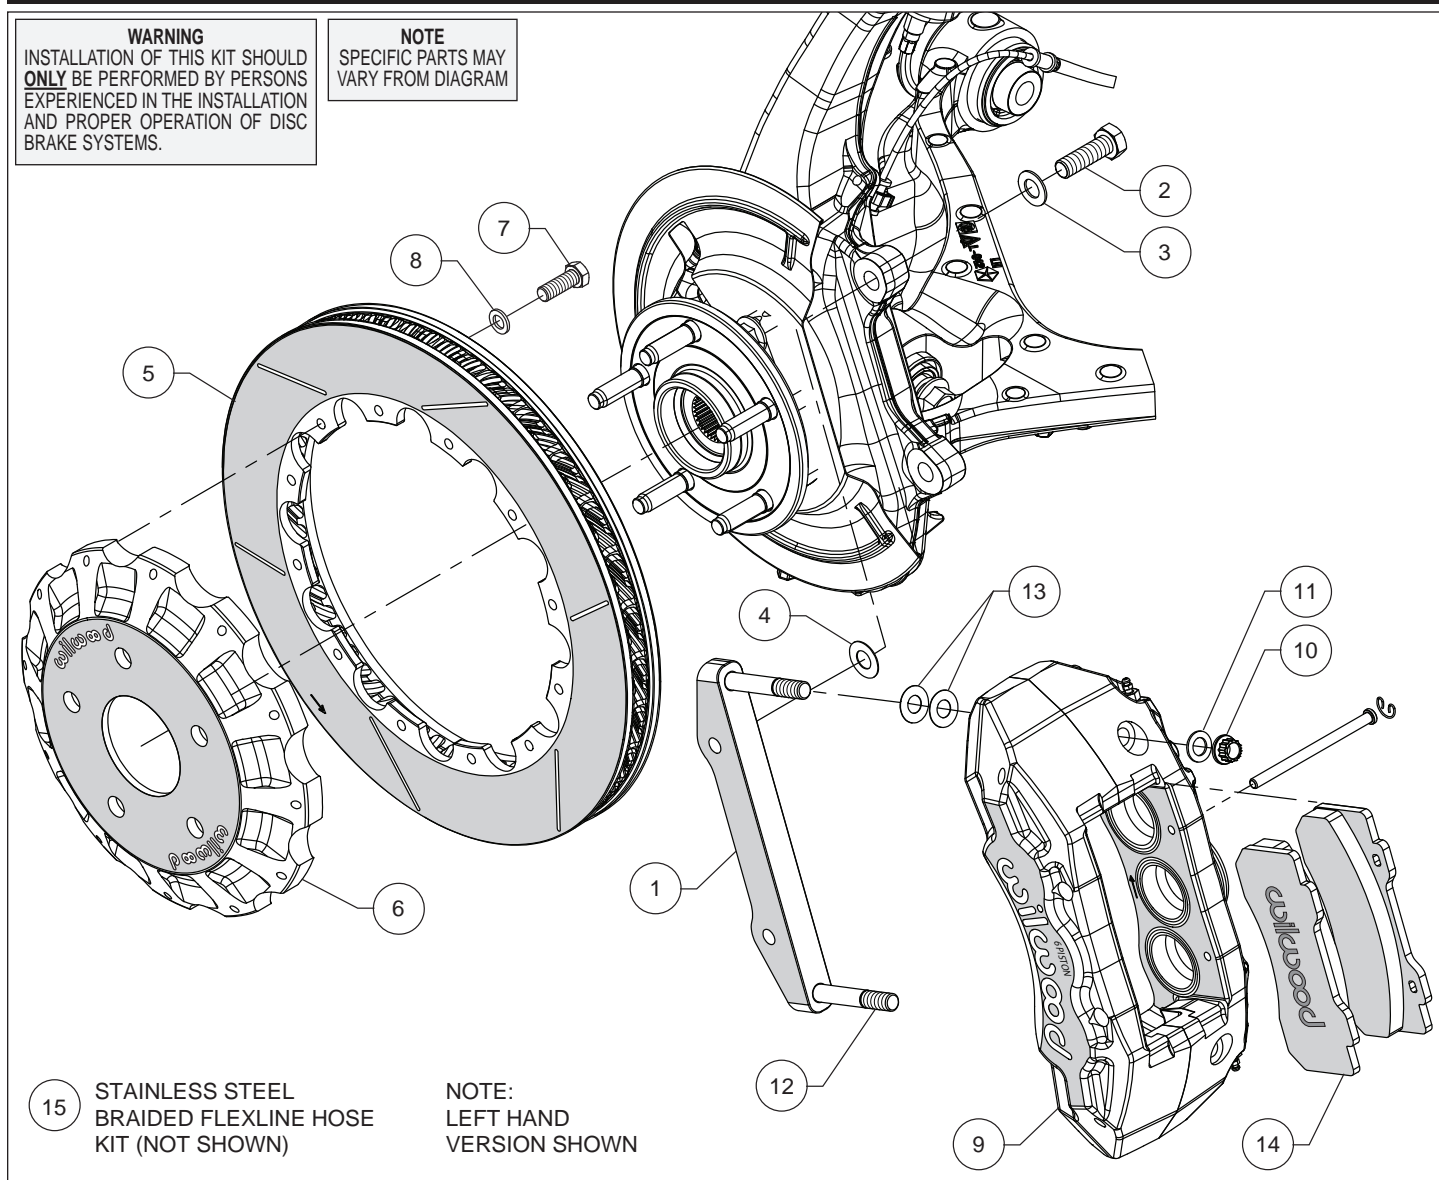
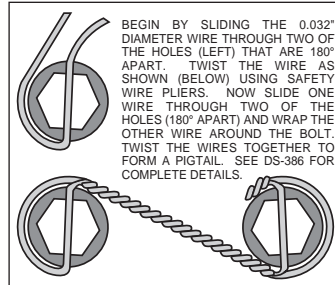

Figure 1. Typical Installation Configuration
Figure 3. Safety Wire Diagram
Assembly Instructions (numbers in parenthesis refer to the parts list and Figure 1 on the preceding pages):
- The caliper mount bracket (1) should initially be installed with clean, dry threads on the mounting bolts. Orient the bracket as shown in Figure 1 and Photo 1, and install using bolts (2) and washers (3). Initially place one .029 thick shim (4) on each bolt between the bracket and upright, Figure 1. Temporarily tighten the mounting bolts. **NOTE:** *The bracket must fit squarely against the mount bosses on the upright.* Inspect for interference from casting irregularities, machining ridges, burrs, etc. Later, after the caliper alignment has been checked, the mount bolts will be secured using red *Loctite*® 271.
- Orient the rotor (5) and the hat (6) as shown in Figure 1 and Photo 2. Attach rotor to hat using bolts (7) and washers (8). Using an alternating sequence, torque to 25 ft-lbs. For an added measure of security, the bolts may be safety wired using standard 0.032 inch diameter stainless steel safety wire as shown in Figure 3. Please refer to Wilwood's data sheet DS-386 (available at www.wilwood.com/Pdf/DataSheets/ds386.pdf) for complete safety wire installation instructions.
- NOTE:** *This kit contains distinct right and left hand calipers that must be mounted in a specific direction, as described below.* Lubricate the caliper mounting studs (12) with lightweight oil. Initially place two .015" thick shims (13) on each stud as shown in Figure 1 and Photo 4. Mount the caliper (9) onto the bracket (1) using lock nuts (10) and washers (11), Figure 1. Ensure that the caliper is mounted so that the largest pistons are at the rotor exit end of the caliper, in relation to the direction of rotor rotation. Temporarily tighten the lock nuts and view the rotor through the top opening of the caliper. The rotor should be centered in the caliper, Photo 5. If not, adjust by adding or subtracting shims (4) between the bracket and the upright. Always use the same amount of shims on each of the two mounting bolts. Once the caliper alignment is correct, remove the bracket mounting bolts (2) one at a time, apply red *Loctite*® 271 to the threads, and torque to 77 ft-lb.